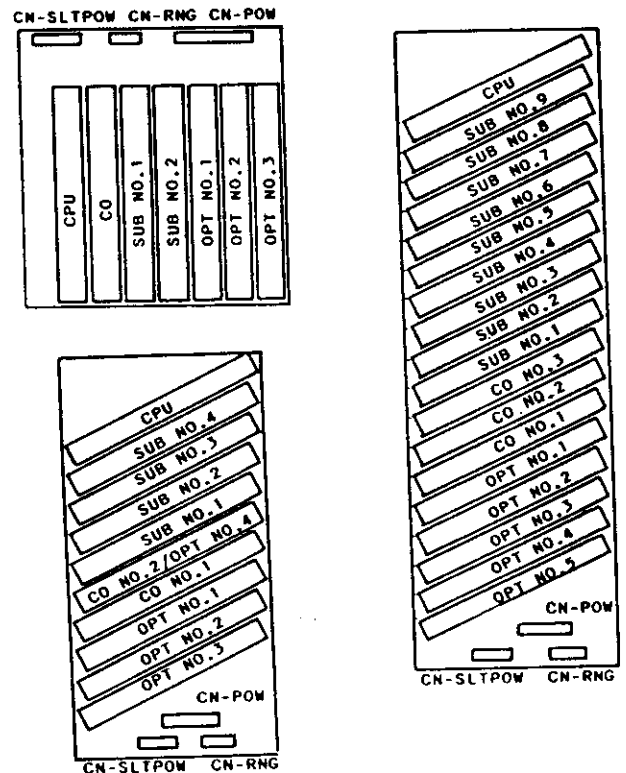

FIGURE 6-45 KSU MOTHERBOARD
4.01 The Key Service Unit (KSU) is a single cabinet construction and it contains a motherboard for all plug-in circuit card modules and power supplies. It also contains the distribution panels for connecting external circuits and devices such as CO lines and key telephones. The motherboard module slots are classified into four (4) functions; CPU, CO lines, SUBscribers and OPTions. Three models of the KSU, the ZT-616KSU, ZT-824/1632KSU and ZT-2464 KSU differs by the capacity of the card modules and distribution points. To distinguish the capacity difference the system identification is provided on the motherboard so that a commonly used CPUHW software can recognize the capacity. Figure 6-45 illustrates the motherboard connection on the KSUs and the associated circuit card module location.